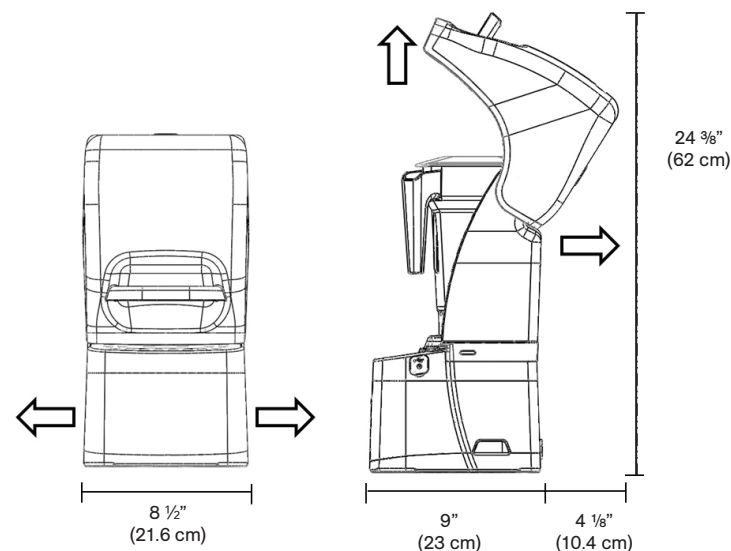

Figure 1. Stealth Dimensions
- Ensure there is enough room above and around the unit to allow for unhampered movement of the sound enclosure (see Figure 1 for measurements).
*Note: You may locate your Blendtec Stealth in the same space as your previous Blendtec in-counter blender. Just remember to ensure proper spacing for the sound enclosure (see Figure 1 for measurements).*
- Ensure the location meets all dimensional requirements (see Figures 1 and 3).